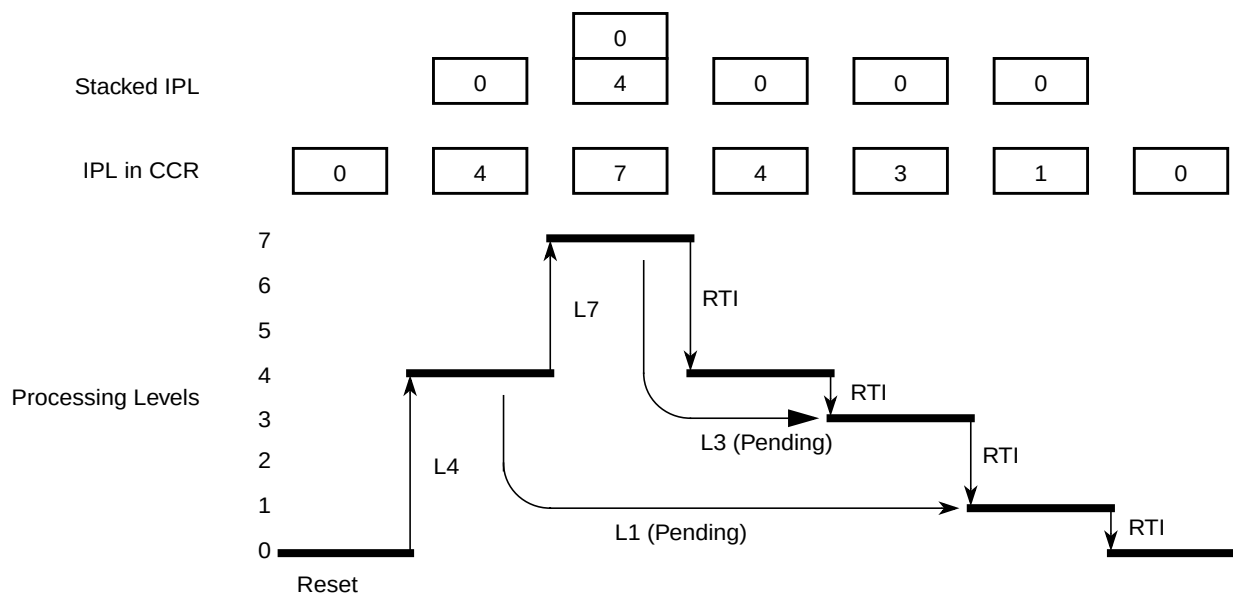

**Figure 4-14. Interrupt Processing Example**
- I bit maskable interrupt requests can be interrupted by an interrupt request with a higher priority, so that there can be up to seven nested I bit maskable interrupt requests at a time (refer to Figure 4-14 for an example using up to three nested interrupt requests).